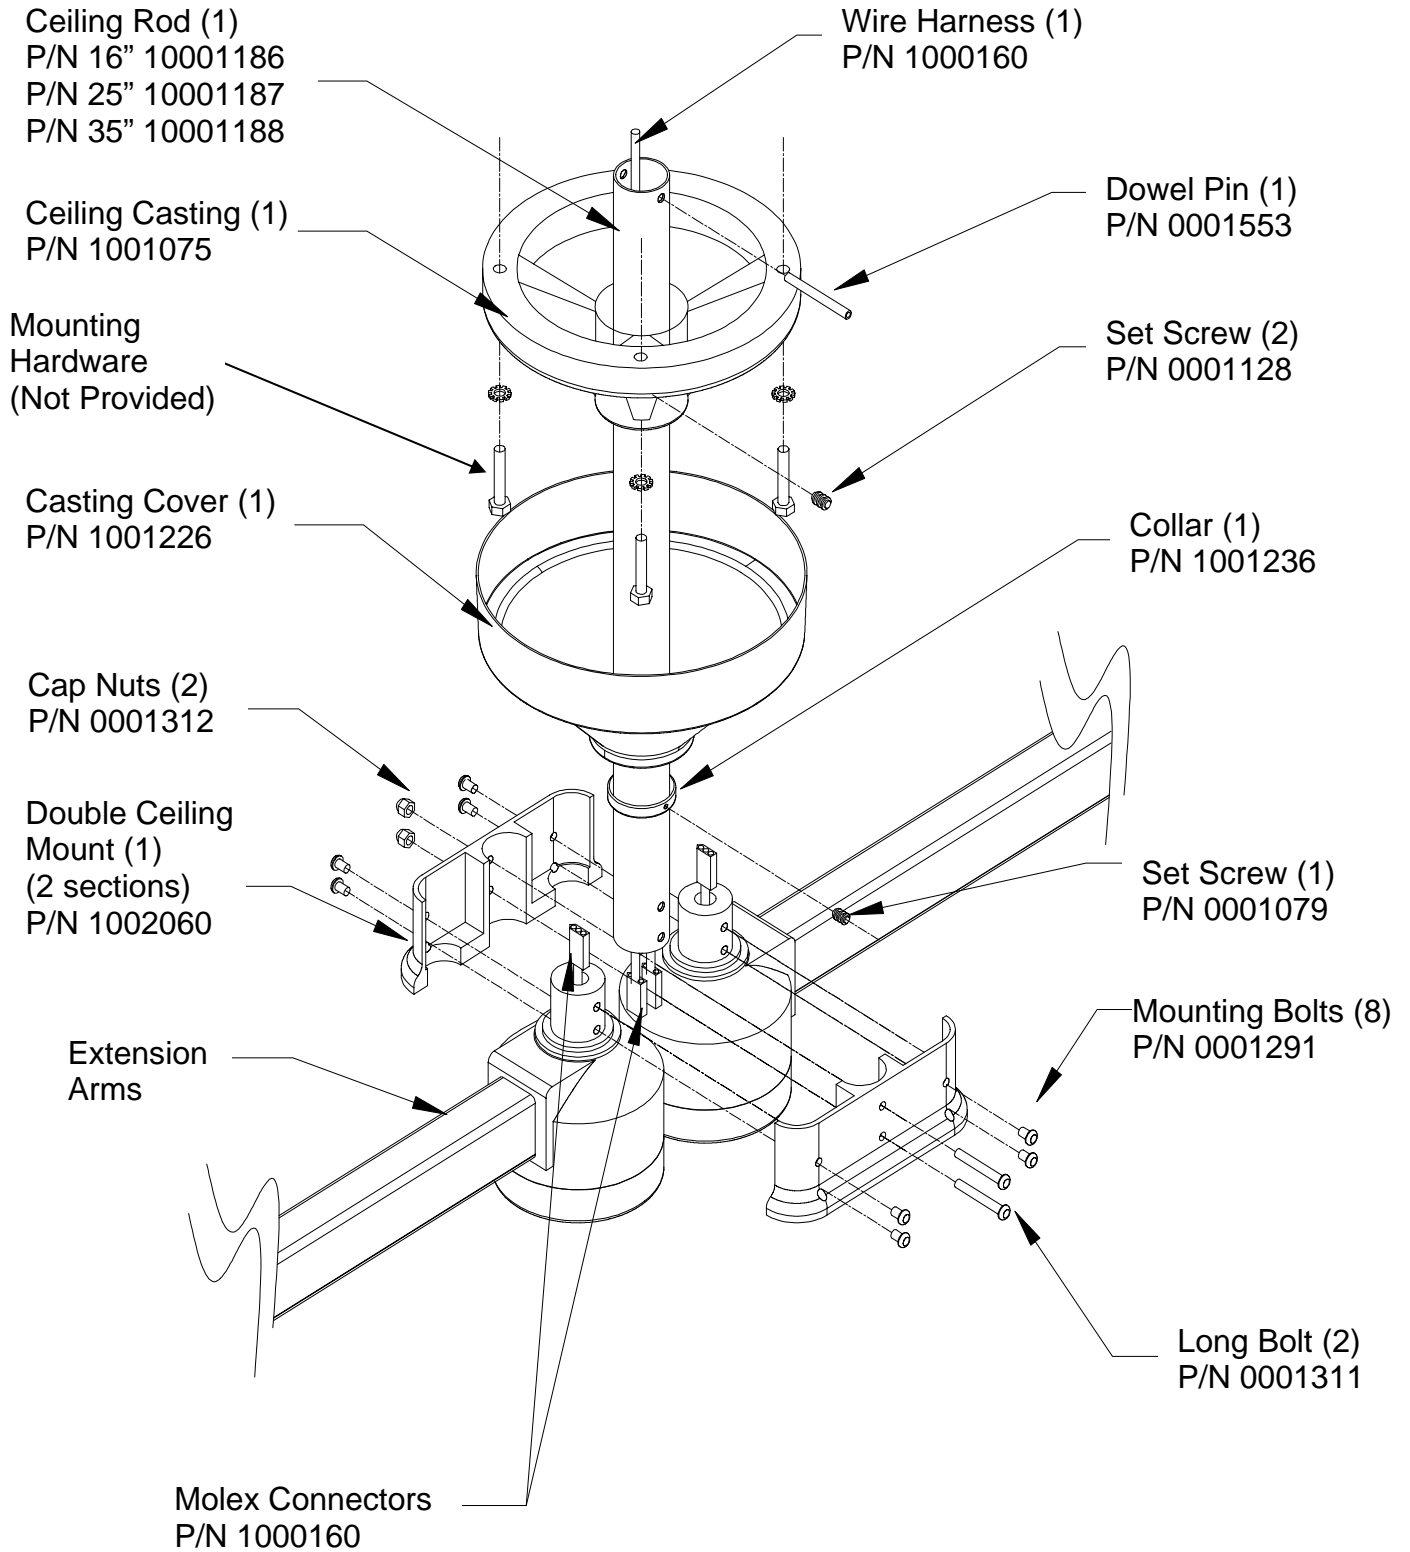

FIGURE 9: Double Ceiling Mount Installation
- Insert the ceiling rod up through the ceiling casting until the hole in the ceiling rod becomes visible (see figure 9). Insert the dowel pin into the hole in the ceiling rod and lower the rod in the ceiling casting, making sure the pin is seated securely in the indentation on the ceiling casting. Securely tighten the two set-screws located in the casting.
- Position the two extension arms as shown in figure 9 to allow for easier mounting of the remaining double mount section. Firmly press the fastened double ceiling mount section against the ceiling rod. While firmly holding the double ceiling mount section in place, remove only the cap nuts from the 2" long bolts. It is strongly recommended that a second person hold the arms in place while the nuts are removed. Place the remaining double ceiling mount section onto the bolts. Be sure the wires are enclosed within the wire channel to avoid pinching them. Replace the cap nuts and fully tighten. Install the remaining four  $\frac{3}{8}$ " long mounting screws and then fully tighten all eight screws.